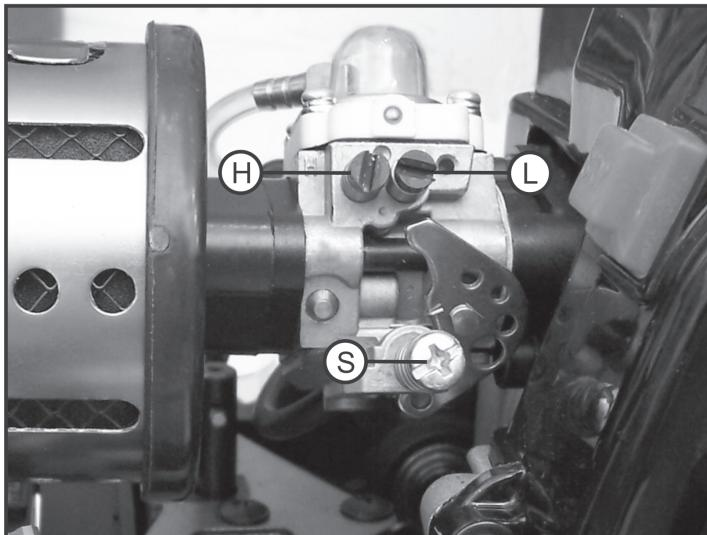

Figure 18
- The brake linkage (3) must not affect the brake lever (4) and therefore the brake yet.
- If the brake function is operated at the transmitter, the rudder horn moves towards the arrows. The throttle linkages are pulled even more strongly towards the mechanical stop at the carburettor (also see figure 18) by the installed spring. The motor speed must not decrease. If this is the case, the front adjustment ring must be adjusted (push towards the carburettor).
- At the same time, the throttle lever (4) is moved and operates the brake. Brake linings are subject to wear. After a certain operating duration, the brake effect will reduce depending on driving manner. The adjustment screw (5) can be used to adjust the linkage until the usual brake effect is achieved again.